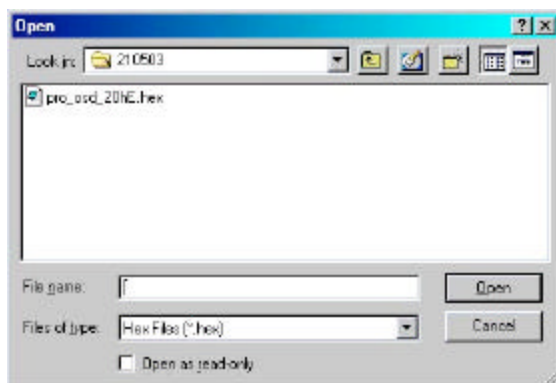

Figure 25 The Open box
3. From the **File** menu, choose **Open**. The **Open** box appears. See Figure 25.